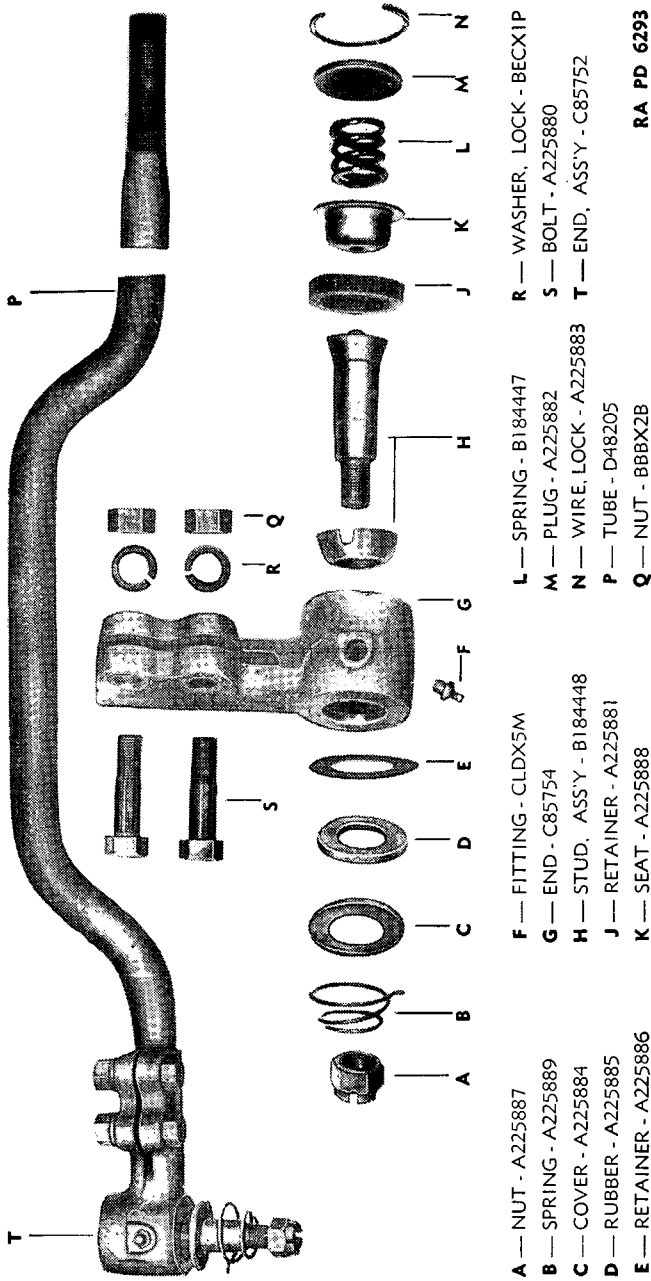

FIGURE 33.—Front axle steering tie rod (cross tube), exploded.
g. Steering cross tube (fig. 33).—Tools: $1\frac{1}{16}$ -inch socket wrench, screw driver, $1\frac{5}{16}$ -inch socket wrench, $\frac{7}{8}$ -inch open end wrench.
(1) Disconnect cross tube— $1\frac{1}{16}$ -inch socket wrench. See operation *f*(3) above.
(2) Remove dust shields. Remove retainer spring (A225889), dust cover (A225884), rubber (A225885), and retainer (A225886) from tapered stud assembly.
(3) Remove end plug—screw driver. Pry out end lock (A225883) and remove end plug (A225882) and spring (B184447) from bottom side of stud housing.
(4) Remove remainder of stud assembly. Pull out ball cup, stud, retainer (A225881), pin (A226061), and stud seat (A225888) from housing.
(5) Take off cross tube ends— $1\frac{5}{16}$ -inch socket wrench, $\frac{7}{8}$ -inch open end wrench. Remove four $\frac{5}{8}$ -inch end clamp bolts (A225880), nuts (BBBX2B), and lock washers (BECX1P), and unscrew ends (C85755 R. H., C85754 L. H.).